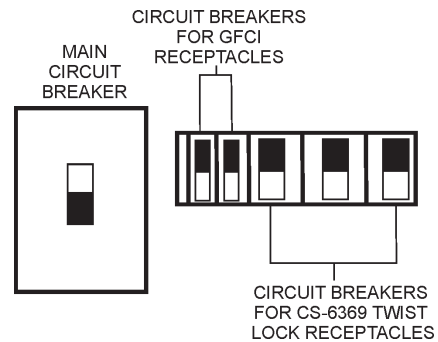

Figure 42. Main, Aux. and GFCI Circuit Breakers (OFF)
1. Place the **main, G.F.C.I.** and **aux.** circuit breakers (Figure 42) in the **“OFF”** position prior to starting the engine.